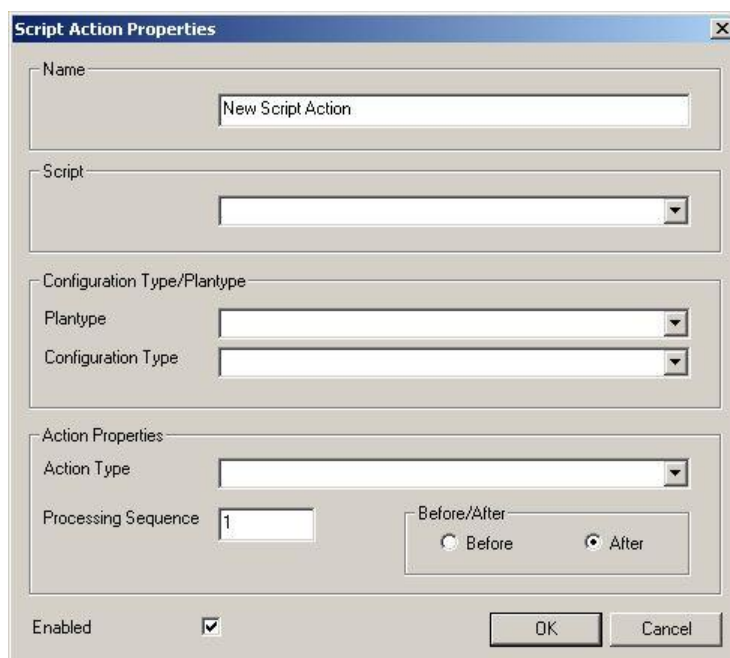

Figure 9: Script Action Properties
You have already been shown the Script Actions folder in section Scripts, VBA Macros, and Script Actions. This is the folder that you also use to start scripts automatically. During the automatic start of script actions, scripts are automatically started together with certain actions. Actions include the creation, the copying, and moving of a new component (*Please refer to the Table 3*). When executing script actions, either the entered type or the plantype is taken into account. These entries are made when you create a script action (*Please refer to the Figure 9*). Proceed as follows:
- 4) Then use the **Script < VBA Macro** menu item to select the script that you want to execute a script action for. *Please refer to the Figure 9.*